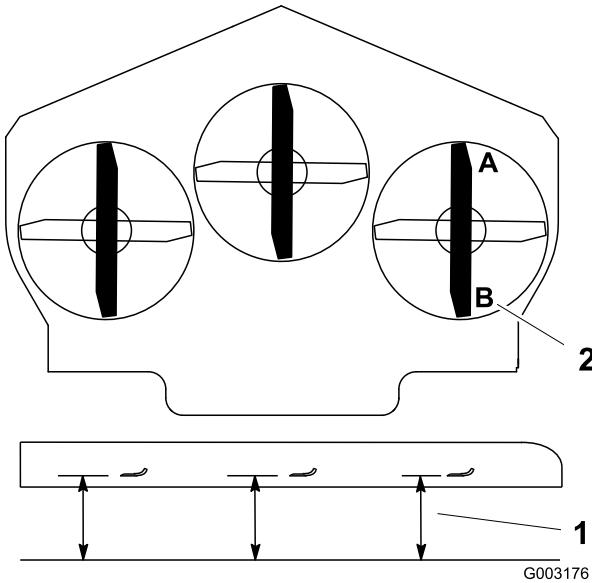

Figure 69
1. Position the right blade front-to-rear (Figure 69).
2. Measure the right blade at the **A** location, from a level surface to the cutting edge of the blade tip (Figure 69).
4. Measure the right blade at the **B** location, from a level surface to the cutting edge of the blade tip (Figure 69).
6. The mower blade should be a 1/4 to 3/8 inch (6 to 10 mm) lower at position **A** than at position **B** (Figure 69). If it is not correct, proceed to the following steps.